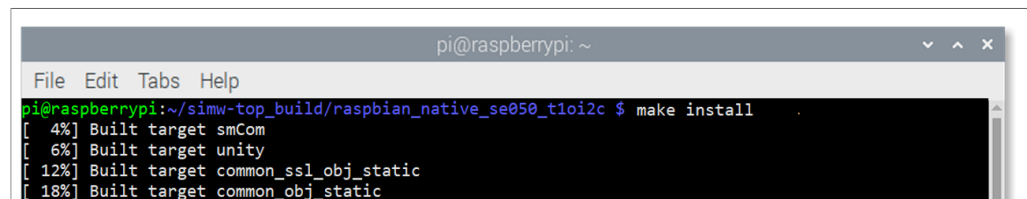

Figure 21. Install projects in the system
5. Install the projects in the system as shown in Figure 21: